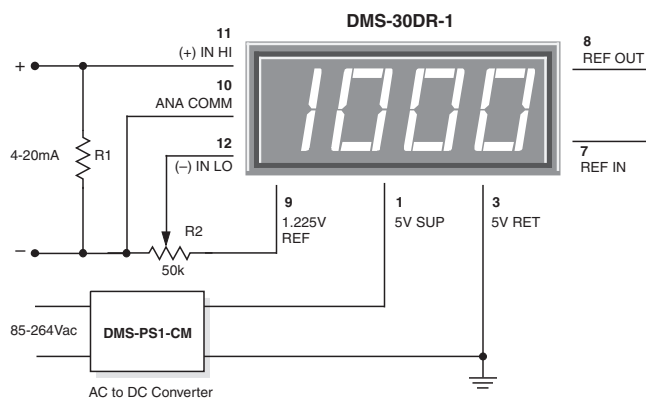

Figure 7. 4-to-20mA Current Loop Operation
- 5. Process Control (4-to-20mA) Measurements:** In many common process-control applications, a 4-to-20mA current loop is used to transmit information. Because DMS-30DR meters have such high input impedance, a simple shunt resistor across the meter's input can be used to convert the loop current to a voltage. See Figure 7. The value of the shunt resistor is a function of the scaling requirements of the particular application and can be calculated using the following equation:
To calibrate the circuit of Figure 7, perform the following: